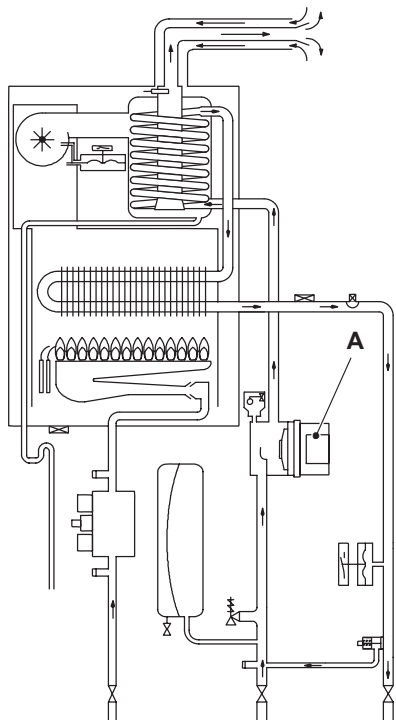
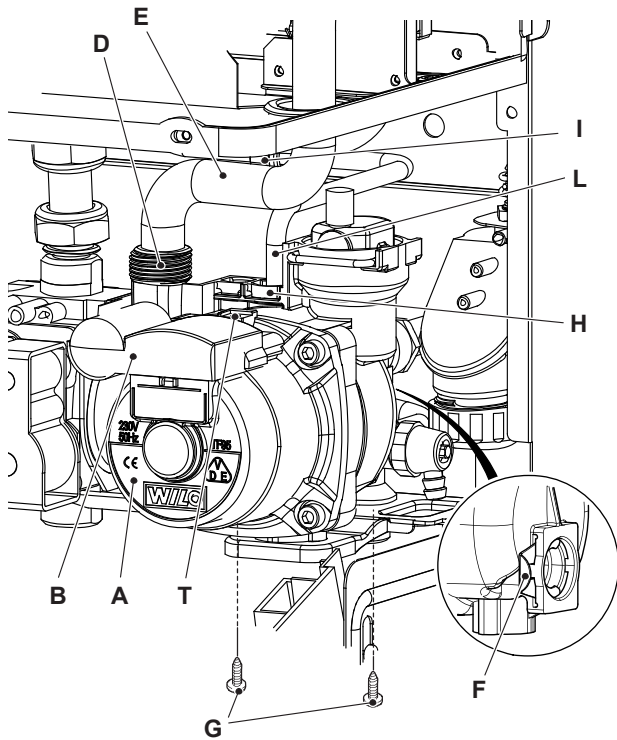

Figure 7.1
Figure 7.3
The pump A in Figure 7.1 and Figure 7.3 has the function of making the water in the main circuit circulate through the main heat exchanger, the condensing heat exchanger and therefore through the c.h. system (during the c.h. function) or through the secondary heat exchanger (during the d.h.w. function).
With the boiler off, remove the front panel and disconnect the connector B (Figure 7.3).
- 3 Disconnect the connector B (Figure 7.3) following the indications given on the connector box.
- 4 Disconnect the earth connector T (Figure 7.3).
- 5 Loosen the connection D (Figure 7.3), and pull up and turn to the left the pipe E.
- 6 Remove the fork H, loosen the connection I and remove the pipe L (Figure 7.3).
- 7 Remove the locking plate F (Figure 7.3).
- 2 Disconnect the connector B (Figure 7.3) following the indications given on the connector box.